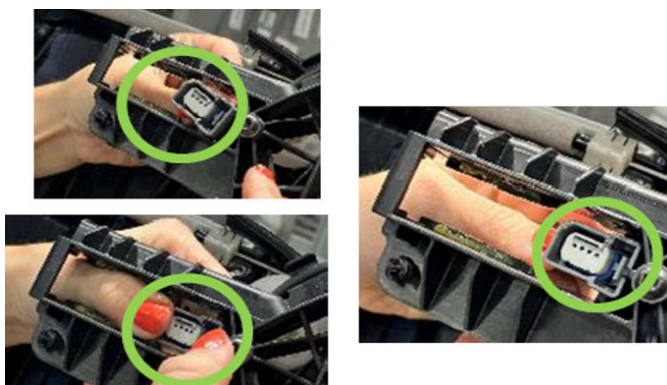

Fig. 45
49. Route the passive entry antenna clip along the left edge of the antenna until it clips into the tab Fig. 45.